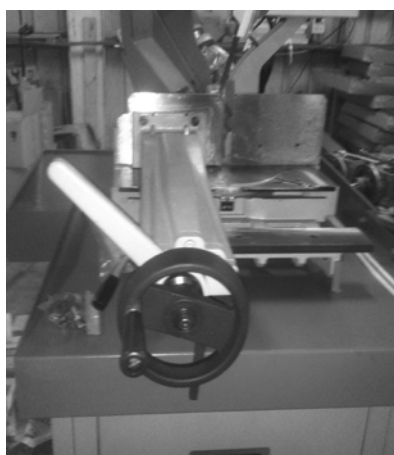

Fig 7-2
2. The handle will be left side when the vise stay in left side as(fig.7-2)